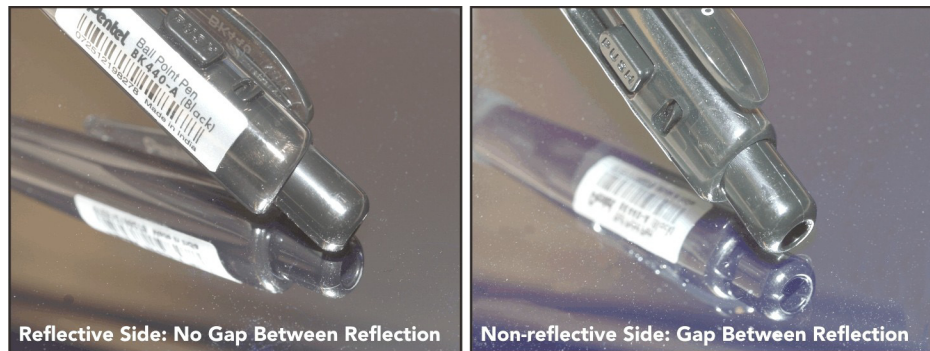

Figure 5-75 Installing Fold Mirror
7. Reverse the above steps to install fold mirror. **NOTE:** *When installing, ensure that the reflective surface faces inwards (Figure 5-75).*
7. Reverse the above steps to reinstall. **NOTE:** *When installing ensure the reflective surface faces inwards. (Figure 5-75).*